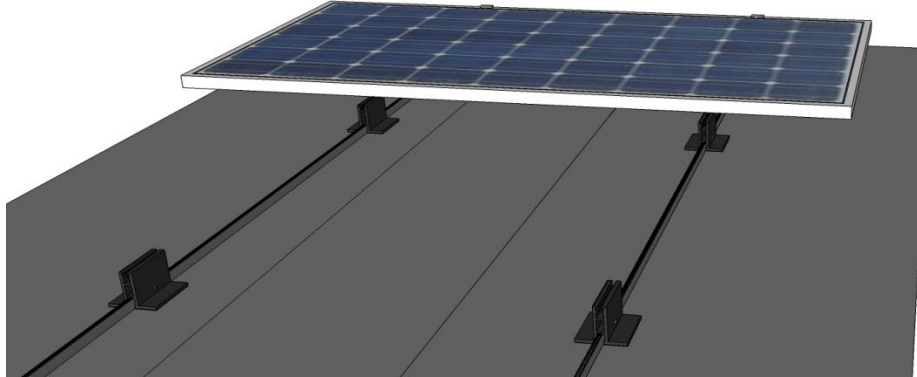

Fig 6
- Secure two more mounting feet parallel with first mounting feet. Position these feet so that the next module will land on them at one inch from the upper end of the mounting feet (fig 6).